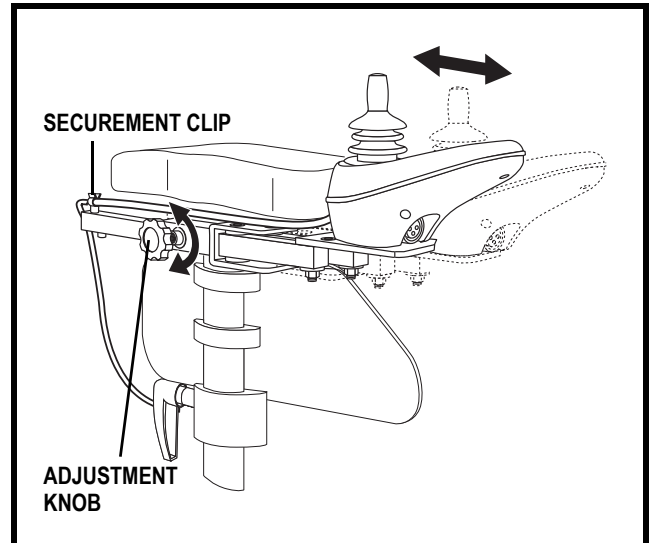

Figure 23. Controller Position
1. Loosen the adjustment knob on the armrest. See figure 23.